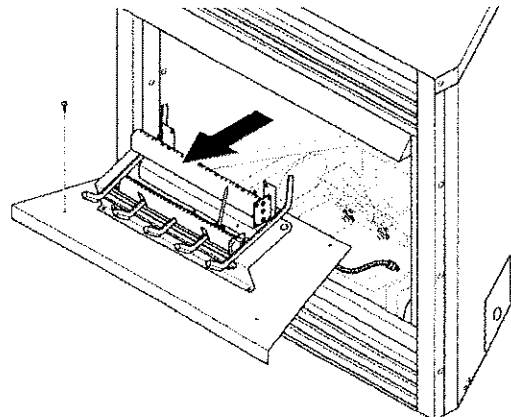

Figure 18 - Removing Log Base Assembly From Fireplace
3. Remove screws that attach log base assembly to fireplace (see Figure 18). Carefully lift up log base assembly and remove from fireplace (see Figure 18).